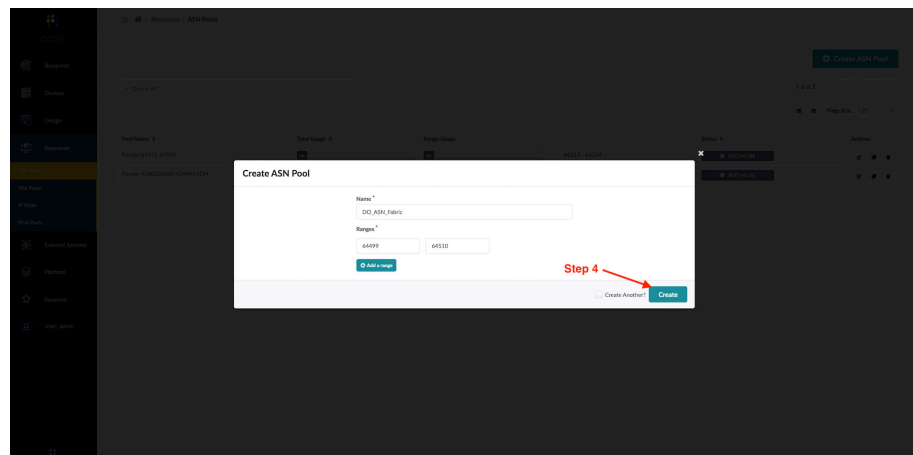

Figure 2.23 *Assigning ANS Pool Parameters*
Step 4: Click Create. See Figure 2.23.